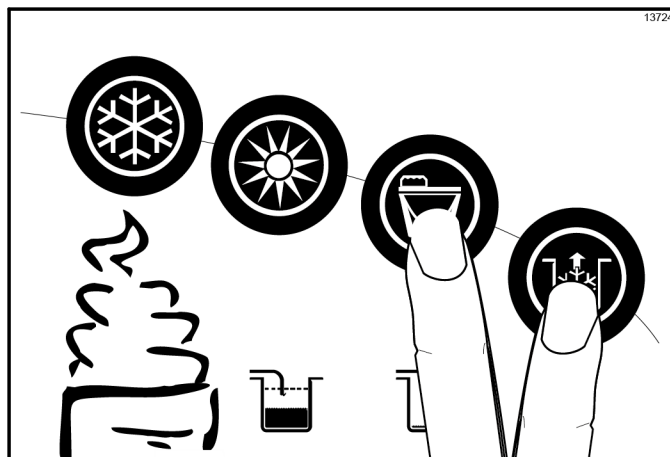

Figure 6-56
1. With a pail beneath the door spout, open the draw valve. Press the Wash and Pump keys  . (See Figure 6-56.)